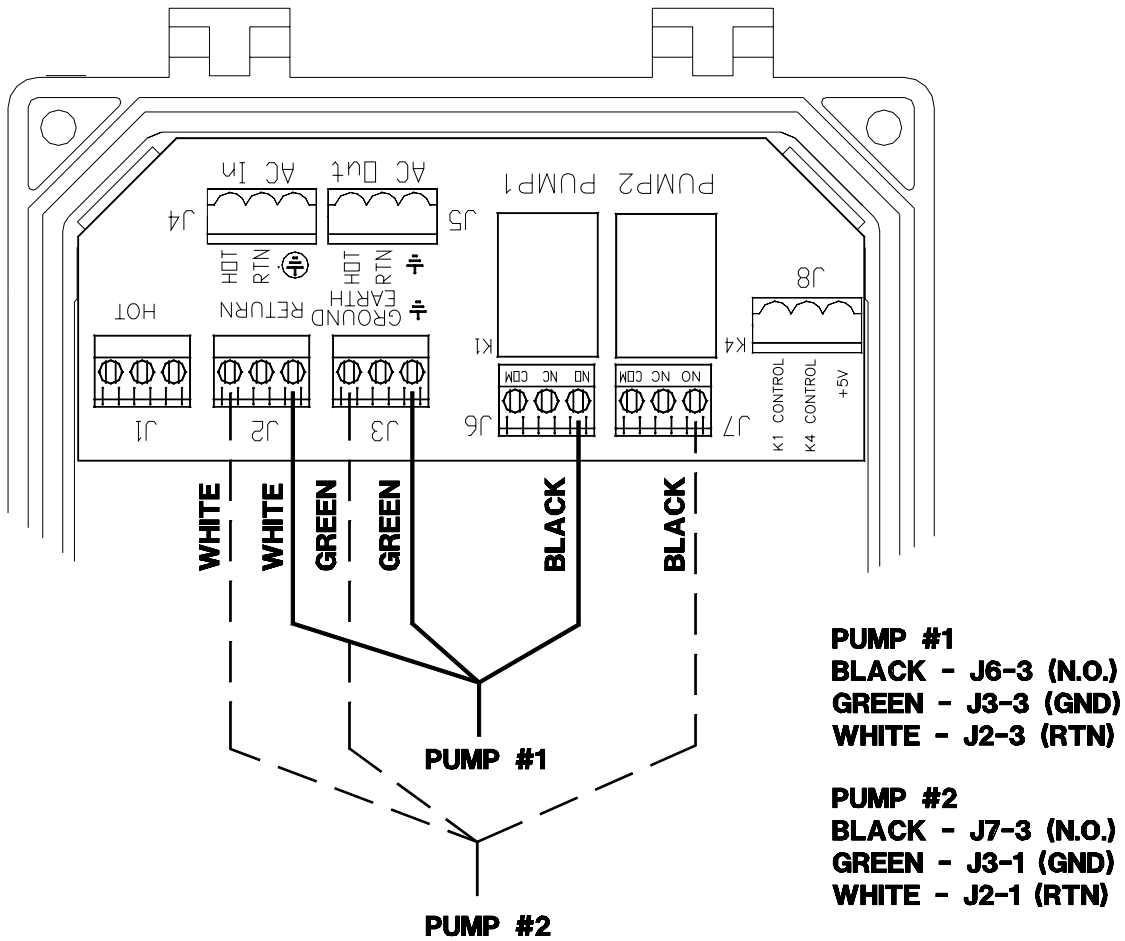

Figure 16 – Pump Wiring Connections
1. If you have a single pump system, connect Pump #1 to J2-3, J3-3 & J6-3 as shown in *Figure 16 – Pump Wiring Connections*. This connection will allow the pump to energize when the corresponding pressure switch trips. If you have a dual pump system, connect pump #2 to J2-1, J3-1 & J7-3 as shown below.